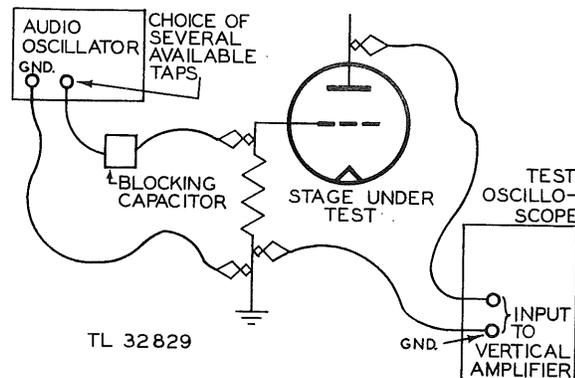

Figure 38. Audio oscillator, test connections.
c. Description. An audio oscillator is a device for producing an unmodulated, alternating voltage which can be continuously varied in frequency to cover the complete audio spectrum (approximately 15 cycles to 20 kilocycles per second). A method of applying this signal voltage to the grid of a tube is illustrated in figure 38. Although there are many forms of audio oscillators, basically they all consist of a means of generating an audio-frequency signal with vacuum tubes. This signal, with or without amplification, is fed to an amplifier-output stage which is transformer-coupled to the output terminals. The output terminals provide various impedance taps to match the output impedance of the audio oscillator to the input impedance of the circuit to which the audio voltage is applied. The audio oscillator also includes a power supply for the tubes.
a. *General.* The principle use of the audio oscillator in the repair and maintenance of Radio Sets SCR-268-(*) is in providing a signal for signal tracing and trouble shooting in audio circuits. Figure 38 illustrates the proper test connections, but bear
connection for applying a signal voltage to the grid of a tube is illustrated in figure 38.